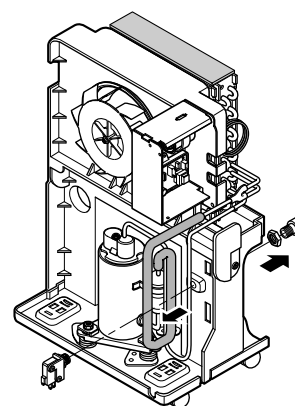

Figure 17
1. Turn the nut counterclockwise and pull out the micro switch from the drain pan. (See Figure 17)